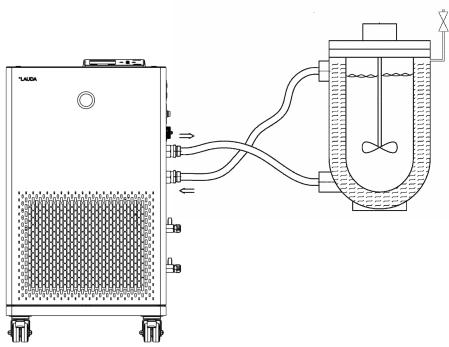

Fig. 35: Application with vent valve
- A vent valve Fig. 35 can significantly simplify the aeration process. For this purpose, periodically open the valve carefully and allow gas/air to escape until liquid escapes from the valve, and then close the vent valve again. Collect the liquid in a suitable container. Operate the valve again at regular intervals until no more air escapes.